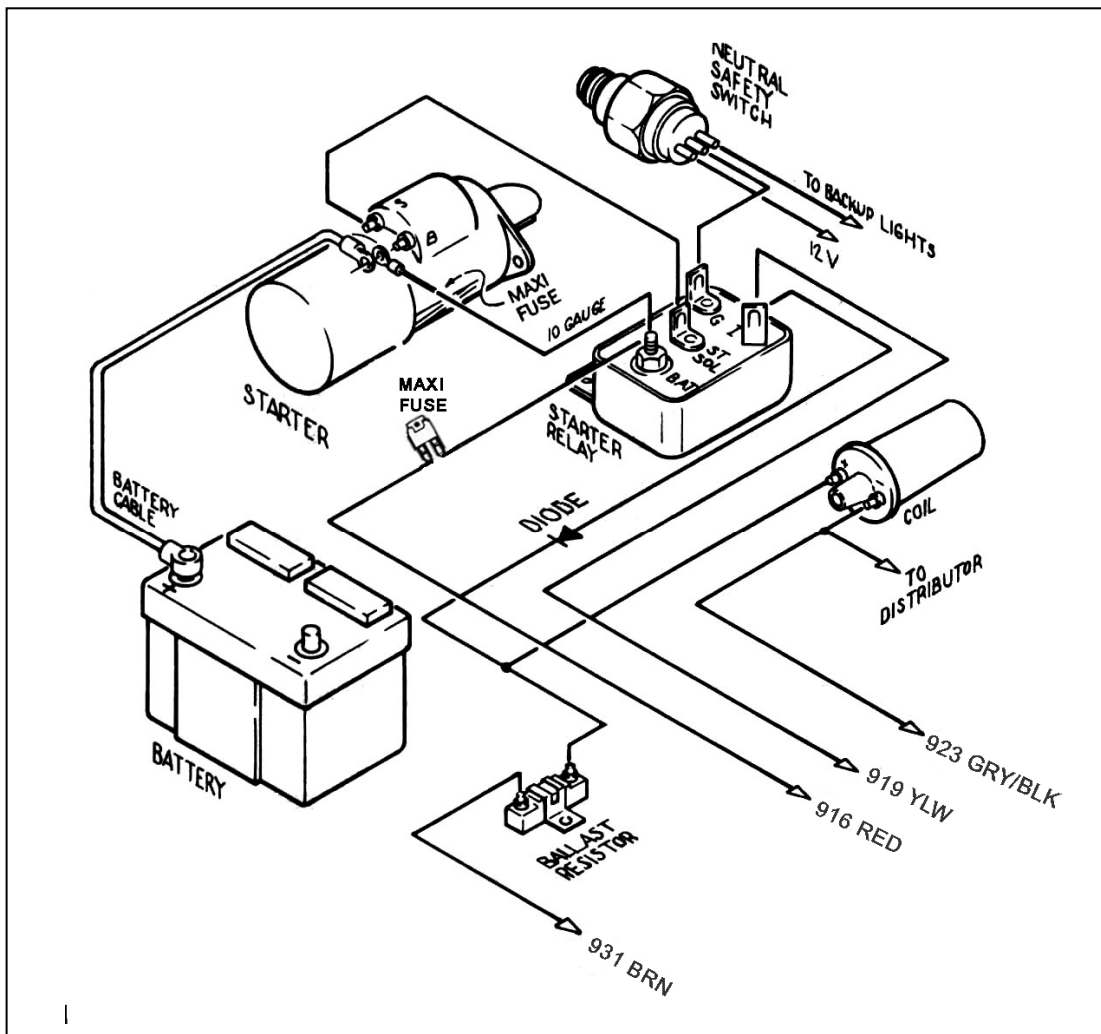

Figure 7-2A Mopar Ignition (Start/Run) System
7.2 Mopar Ignition (Start/Run) System. See Figure 7-2A
- 7.2.2 With crimping tool, attach the Maxi Fuse onto remaining length of red 10-gauge wire. It serves as a fuse to protect the entire harness. **DO NOT OMIT IT!** Connect this wire from the Starter Motor Battery terminal, as shown in **Figure 7-2A**. **USE ONLY 10-GAUGE WIRE or LARGER.**
- 7.2.4 Connect a 14-gauge wire from the Starter Relay Ground (G) terminal to the center terminal of the transmission mounted Neutral Safety Switch. Older Mopar neutral safety switches have only one terminal. On newer switches, the two outside terminals are for backup lights (see **Figure 7-2A**).
- 7.2.7 Connect a 14-gauge wire from the Starter Relay Ignition (I) terminal to the ignition coil side of the Ballast Resistor. This wire serves as a ballast resistor BYPASS during engine starting. You must add a diode (8 amp min., 100 PIV) to this wire as shown in **Figure 7-2A**. If you are not using a ballast resistor, do not connect this wire.